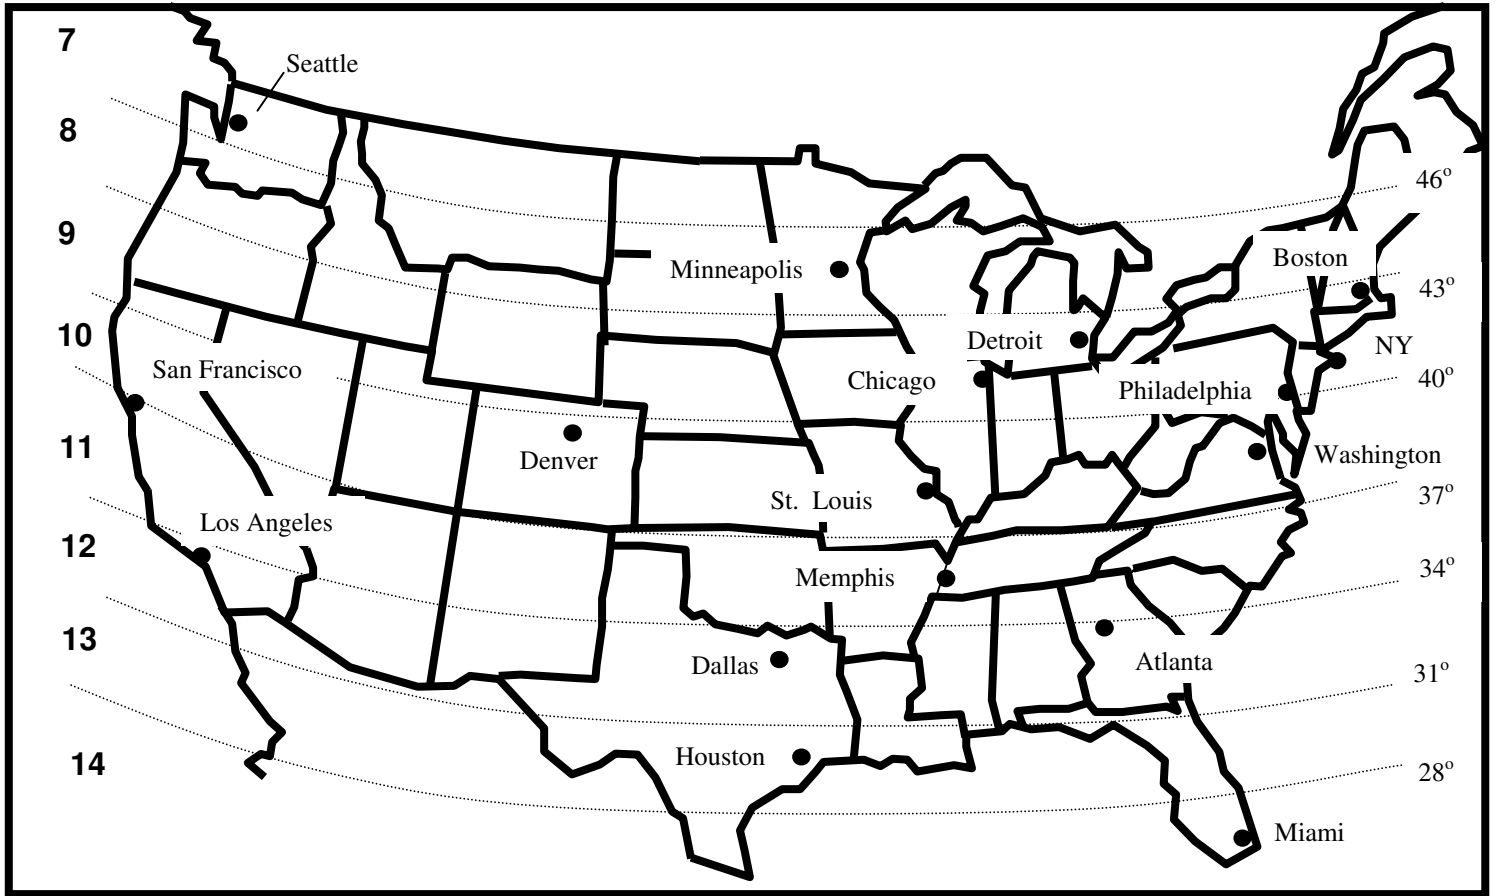

Figure 2-2 : Latitude Compensation Zones (USA)
Step 4. Turn the scale's AC power on to begin use. When the scale is switched on for the very first time, the message "d-ZonE" appears on the display. Press the numeric key corresponding to the correct geographic area in the map shown in Figure 2-2 then press the **SAMPLE / SAVE** key to save. **Note** – If there is no corresponding geographic area, enter "0" then press the **SAMPLE / SAVE** key. No gravitation adjustment will be performed.